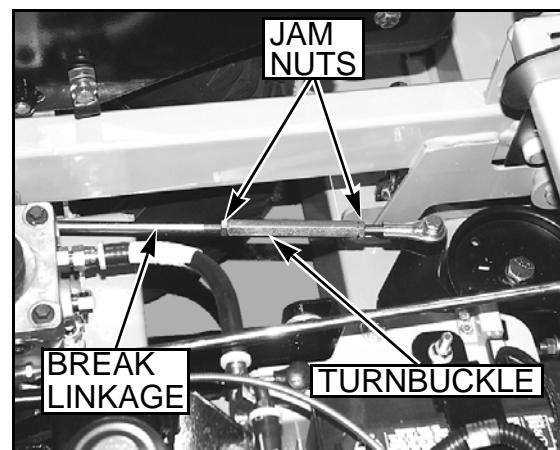

FIG. 86
7. Loosen the brake linkage jam nuts "FIG. 86".